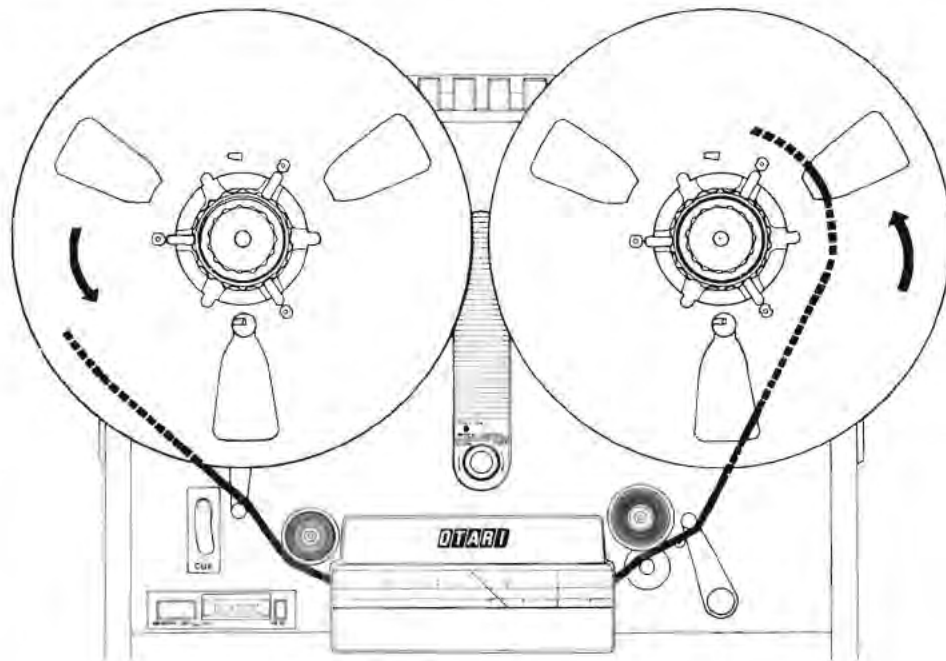

Fig. 3-2. Tape threading.
- (1) Place the POWER switch in the on position. The VU meter lights will illuminate.
- (2) If metal reels are to be used, use reel-adjusting discs (shims) between the reels and the turntables. Place a reel of tape on the supply (left-hand) turntable. Note that the reel must turn counter-clockwise as tape is pulled off the reel. Place the same size empty reel on the takeup (right-hand) turn table.
- (3) Thread the tape as shown in Fig. 3-2. and place the end of the tape in the slot in the empty reel.
- (4) Set the HIGH/LOW SPEED switch to the desired tape speed.
- (5) Set the LARGE/SMALL REEL switch to conform to the size of the reel hub diameter being used. Place the switch to the "out" LARGE position for NAB hubs (4 1/2 inch diameter) or to the "in" SMALL position for EIA hubs (2 1/4 inch diameter). (THE SAME SIZE REELS SHOULD BE USED ON BOTH TURNTABLES.)
- (6) Set the reproduce head selector switch (Index No.17 in Table 3-1.) to the appropriate position as determined by the track format of the tape to be reproduced.